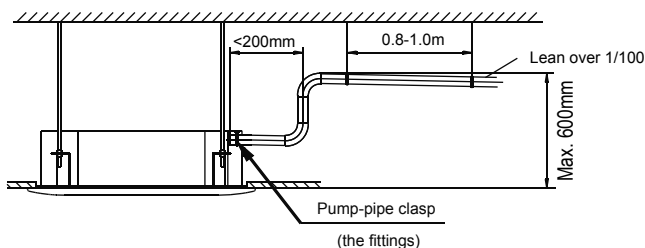

Fig. 8-2
7) In case the drainpipe outlet is higher than pumping connective pipe of the main body, the drainpipe must be arranged upwards vertically by using connective assembly of the water outlet for vertical bending, and the height of the drainpipe shall set to the defrosting pan surface no more than 600mm, otherwise, too much backflow while shutdown would leads to overflow (Refer to Fig.8-2).